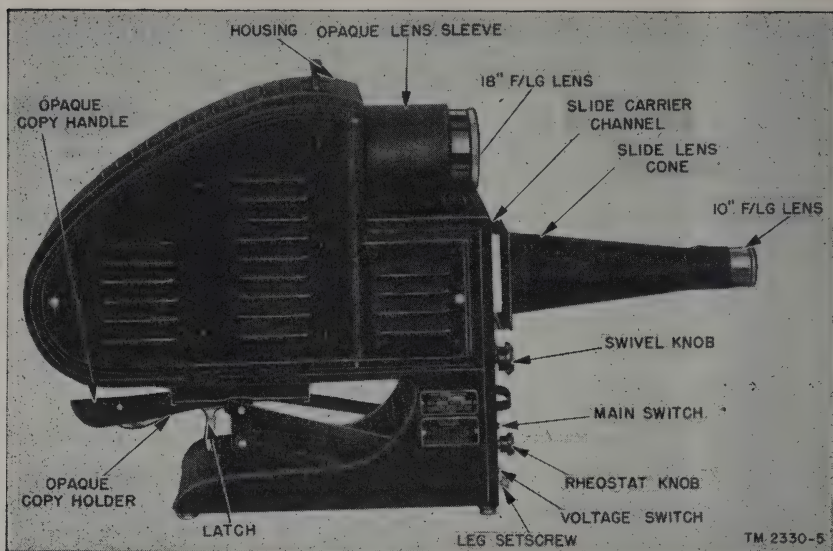

Figure 3. Projector with slide projection lens cone attached.
5. Projector (fig. 3)
6. Opaque Copy Holder (figs. 3 and 9)
7. Slide Projection Lens Cone (fig. 3)
b. **INSERTING OPAQUE COPY LENS.** Remove the lens (4-inch diam.) from the compartment in the carrying case. One end of the lens is knurled. Insert the opposite end of the lens into the opaque copy lens sleeve (fig. 3) and push it in slowly. A spring-loaded ball will engage the spiral focusing groove.
e. CONNECTING POWER CORD. Remove the power cord from the case. Throw the main switch (fig. 3) to OFF, and the voltage selector switch (fig. 3) to the proper position for the available power source. Connect the female connector to the male receptacle on the projector, and the male connector to either a 115-volt or 230-volt a-c or d-c power source.
(3) *Voltage selector switch.* Check the position of the voltage selector switch (fig. 3) to make sure that it is properly set for the available power supply.
b. *PREOPERATION PROCEDURE.* (1) Cleaning optical elements.